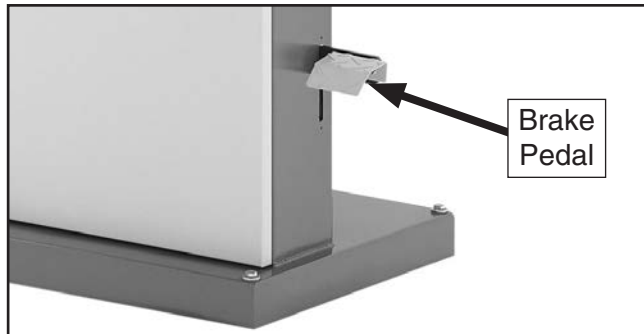

Figure 32. Foot brake installed.
Secure the foot brake pedal to the brake lever using the (2) M6-1 x 16 cap screws and 6mm lock washers, as shown in **Figure 32**.